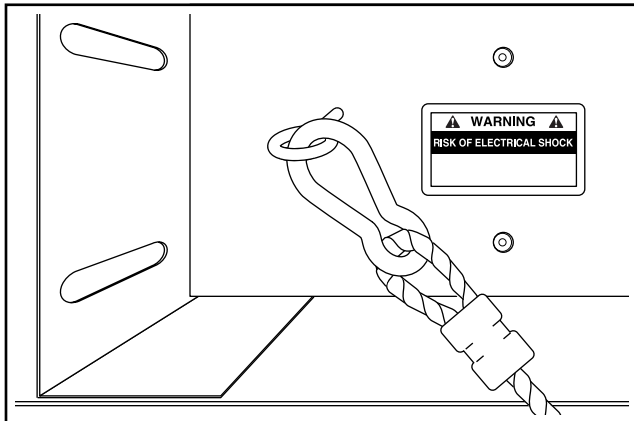

Figure 2: Restraining Device Kit (Part # 153586)
3. This appliance must be secured to building structure. A restraining device kit (#153586) provided with the unit limits the movement of the appliance without transmitting stress to the mains supply. Installation instructions are in the kit. Figure 2.